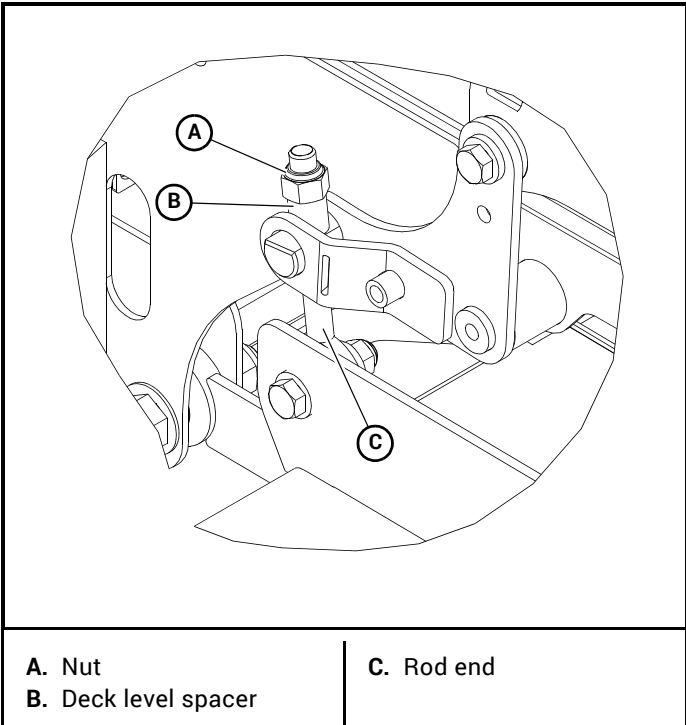

Figure 6-3
5. Adjust the nut on each deck level rod end over the three (3) blocks so that the deck is sitting on the block and the nut is on the deck level spacer. Figure 6-3